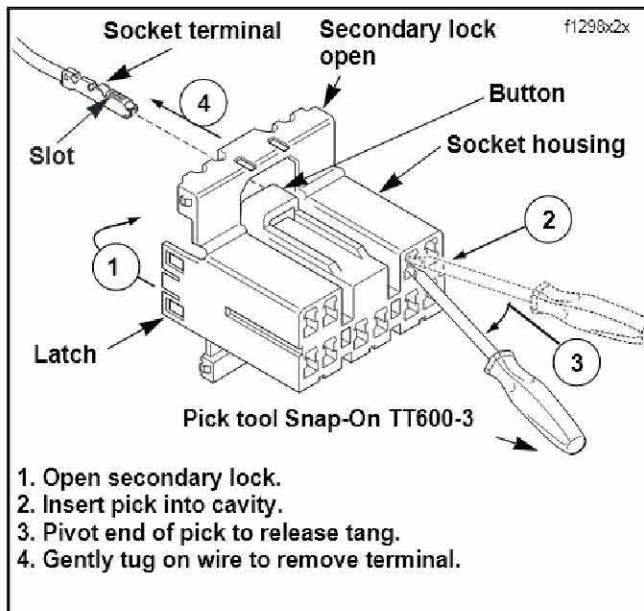

Figure 4. Amp Multilock Socket Connector Wire Removal
1. See Figure 4. Bend back the latch slightly and free one side of secondary lock, then repeat the step to release the other side. Rotate the secondary lock outward on hinge to access terminals in chambers of connector housing.
4. See Figure 4. With the flat side of pick tool against the terminal, insert the pick (Snap-On TT600-3) into the cavity until it stops. Pivot the end of the pick away from the terminal and gently tug on wire to pull terminal from chamber. Do not tug on the wire until the tang is released or the terminal will be difficult to remove. A "click" is heard if the tang is engaged but then inadvertently released. Repeat the step without releasing the tang.
7. See Figure 4. Press the button on the connector and unplug the 12-place connector.
- Note position of rear speedometer gasket (4) and remove it. Gently push on rear of speedometer while simultaneously pulling speedometer and front gasket from bracket.
- Do not remove front gasket (5) from the speedometer (6).
- See Figure 4. After all wires are in place, close the secondary locks on the socket housing.